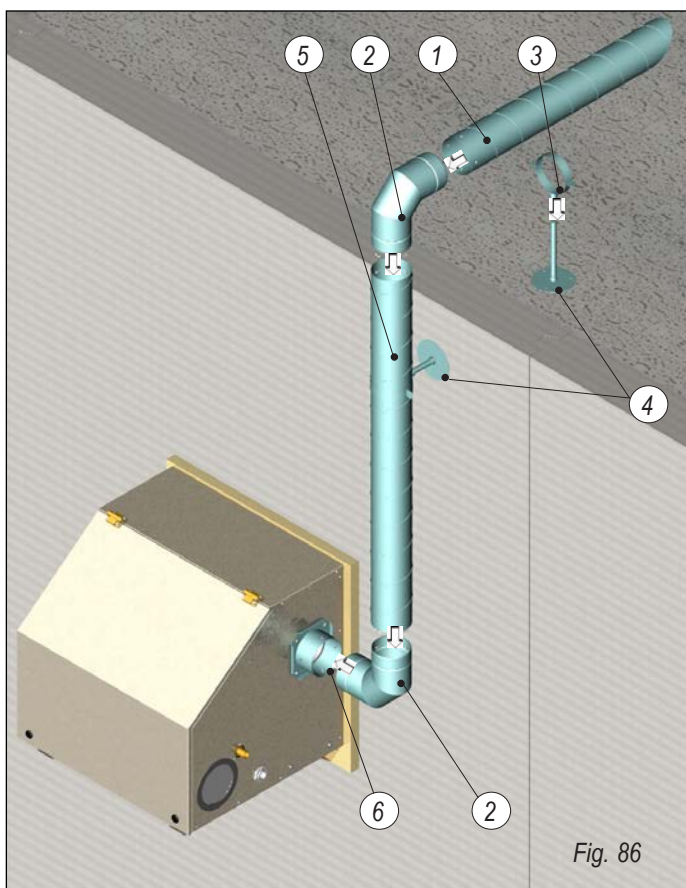

Fig. 86
The making of the exhaust gas duct for wall-installed generators model GSR50, GSR100.1, GSR100.1E and GSR150 is shown in figs. 86 and 87. The piece of **chimney tube (5)** must be **cut during the installation**. A drawing of the assembly of the various components described in the following is shown in fig. 86: